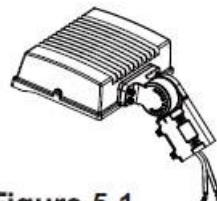

Figure 5.1
3. Loosen the fixtures' hexagonal screw (Figure 5.1) and position the fixture before tightening again.